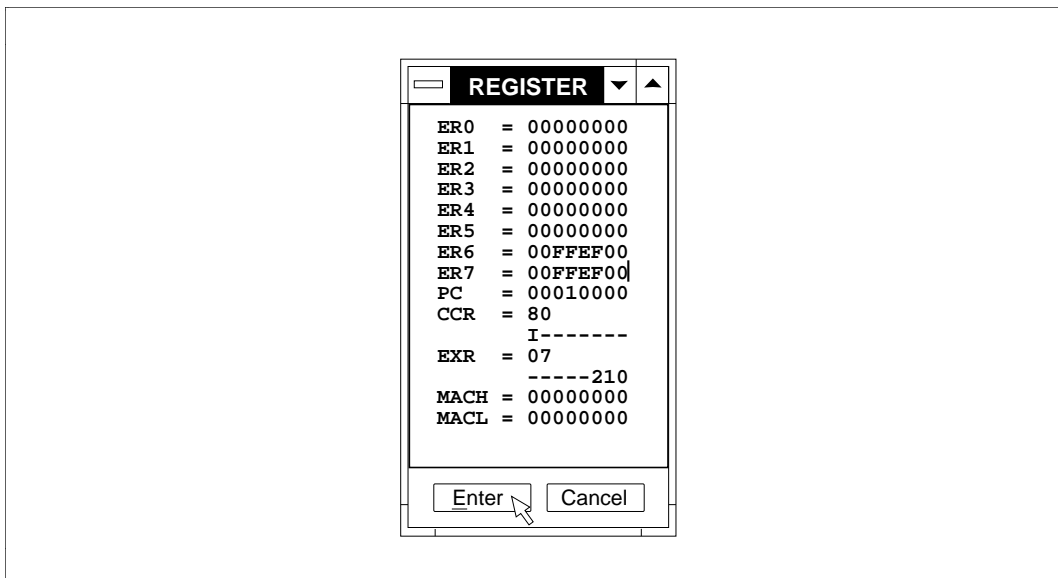

Figure 4-13 Example of Setting Registers
Before executing the user program, the program counter (PC) and stack pointer (SP) must be set. The PC and SP can be set with the [Register] command in the View menu. They can also be set or modified by entering an emulator command in the command area. An example of register modification is shown in figure 4-13.
- (1) Select the [Register] command in the View menu. The register window shown in figure 4-13 will appear.
- (2) Place the mouse pointer over the hexadecimal data for the PC and click to display the character-insertion cursor (|).
- (3) Enter data from the keyboard.
- (4) Enter data for the SP (ER7) in the same way if necessary.
- (5) Click the <Enter> button to set the modified values in the registers.